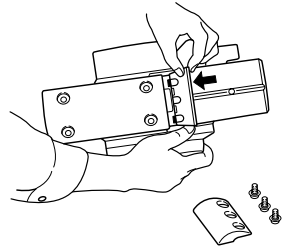

Fig. 5
(2) As shown in Fig. 5, slide the rear side of the cutter blade in the direction indicated by the arrow to disassemble the cutter blade.